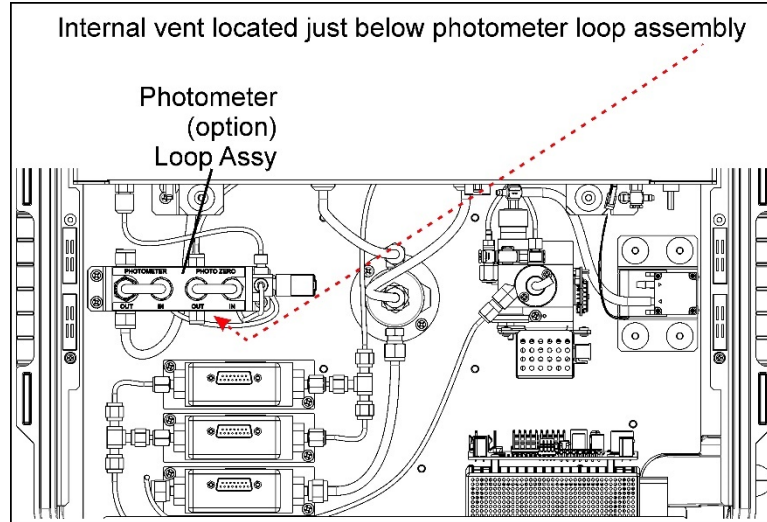
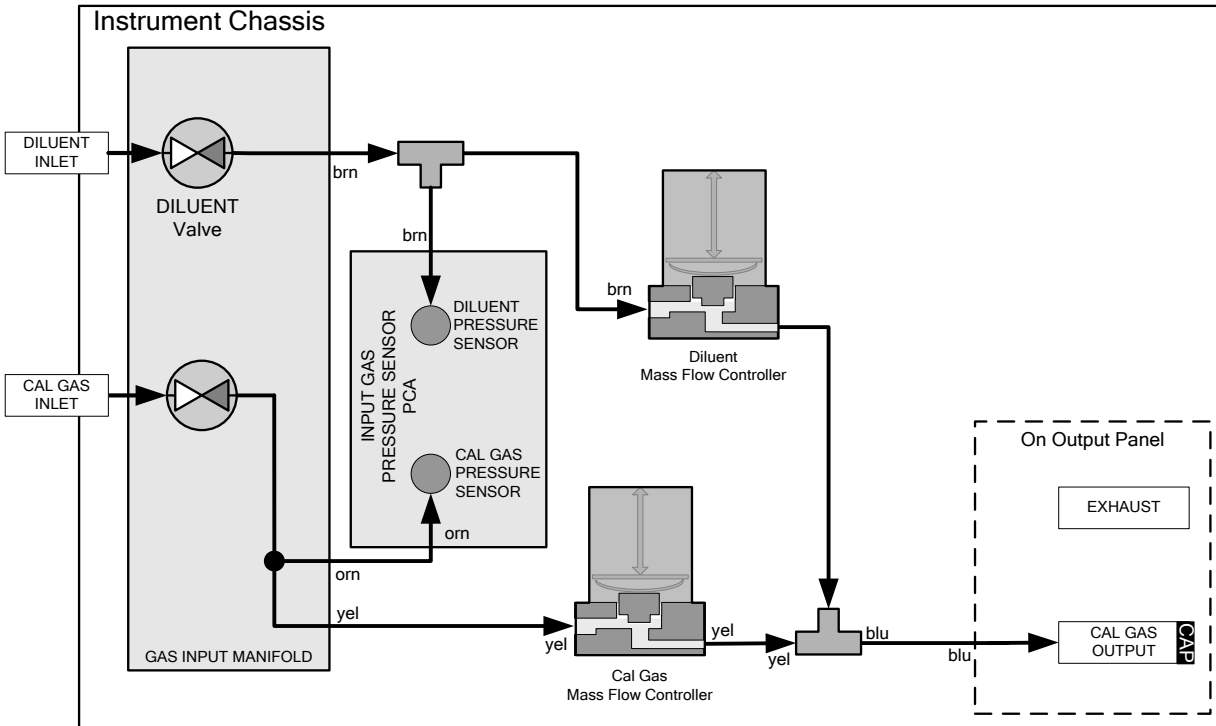
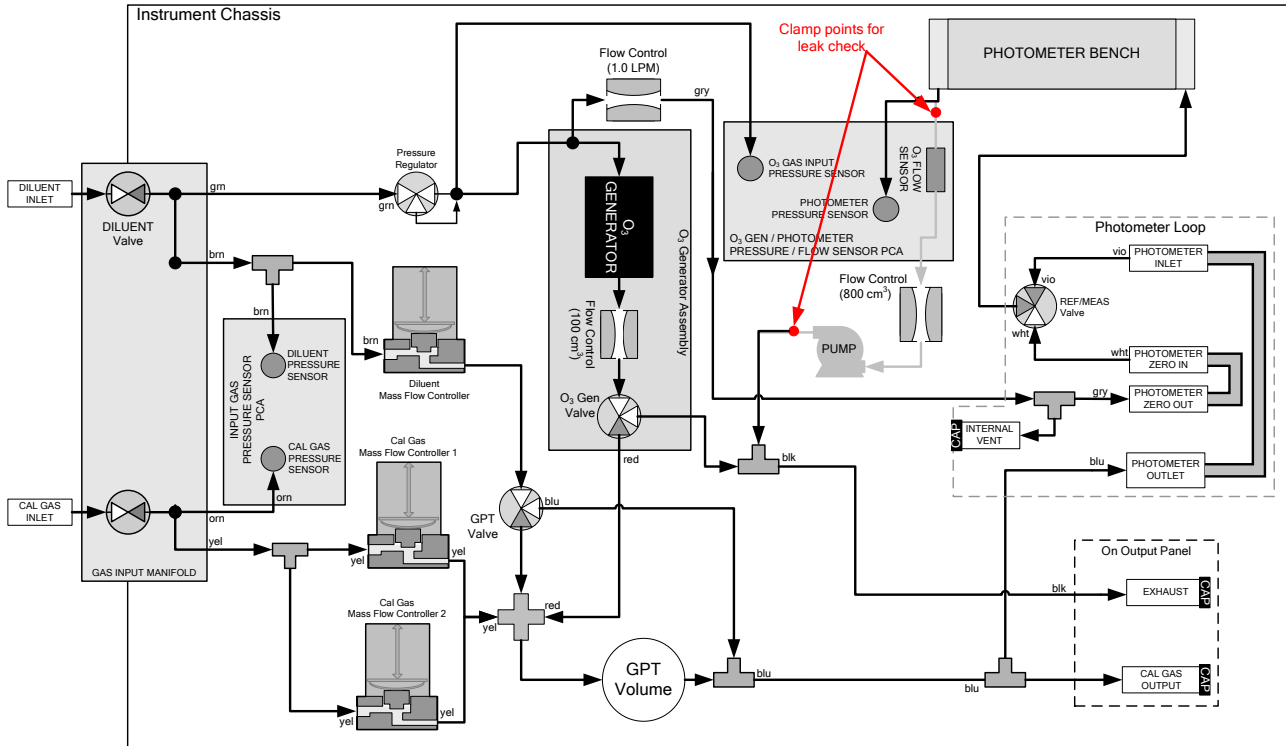

Figure 7-5. Internal Vent Location
Figure 7-6. Gas Flow for Auto-Leak Check Procedure of Base Model T750 (no Photometer)
Figure 7-7. Gas Flow for Auto-Leak Check Procedure of Calibrator with Photometer
Refer to Figure 7-4 and Figure 7-5 for the setup instructions, and to Figure 7-6 and Figure 7-7 for illustrations of pneumatic flow in the basic model and with the optional photometer, respectively):
6. Use the 1/8" cap to securely cover the outlet of the internal vent (Figure 7-5).